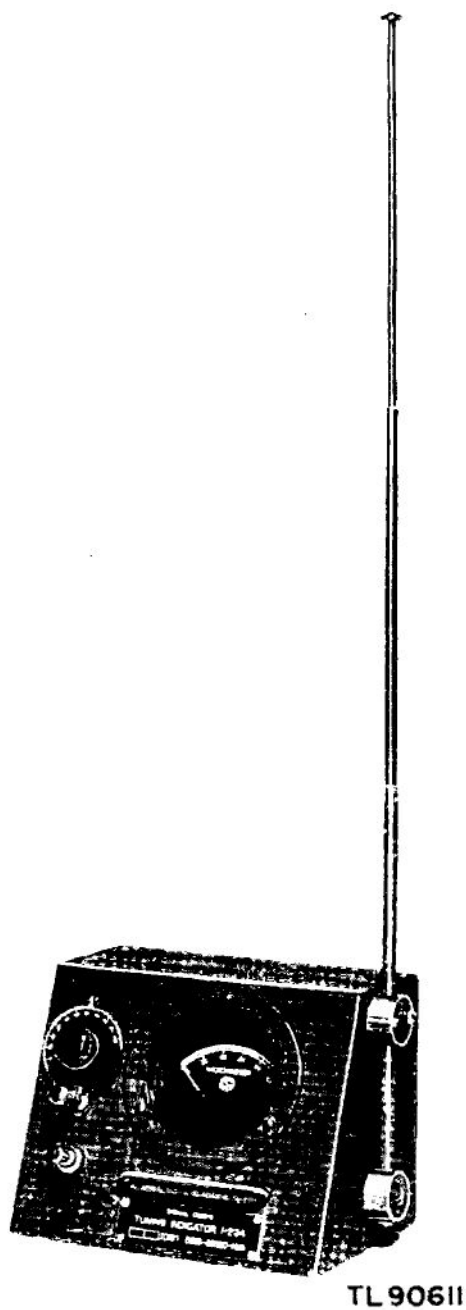

Figure 8. Tuning Indicator 1-234.
a. The tuning indicator (figs. 8 and 17) is basically a one-tube receiver mounted in a metal case $5\frac{1}{4}$ by $4\frac{1}{2}$ by $6\frac{1}{2}$ inches in size.